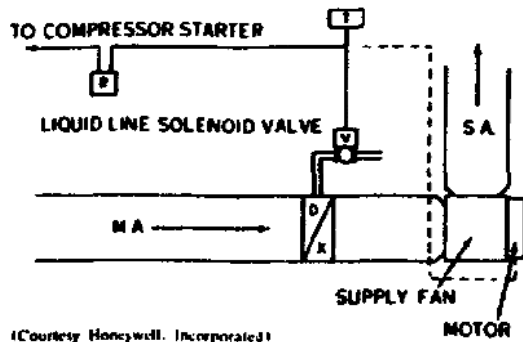
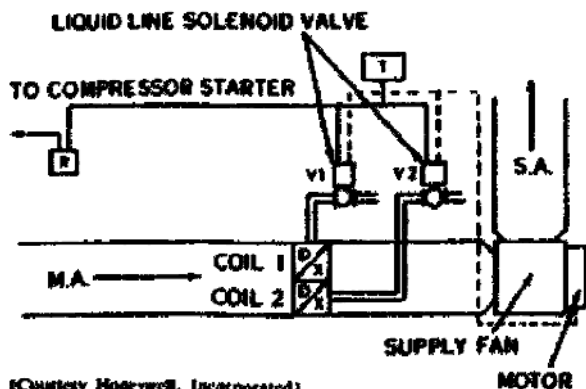

Figure 5. On-off control with a solenoid valve.
Figure 6. On-off control of multiple D/X coil solenoid valves.
12. *Solenoid valve installation.* Figure 5 shows a system which uses a space thermostat to operate a solenoid valve and a nonrestarting relay. The
13. *Multiple D/X coil solenoid valves.* The system shown in figure 6 is similar to that previously discussed (fig. 5) except that it now has two D/X coils and two solenoid valves. The two-stage space thermostat operates D/X coil 1 in an on-off manner when the cooling load is light. It also holds the valve to coil 1 open and operates the valve to coil 2 in an on-off manner during heavy load conditions. The nonrestarting relay functions the same as the one in figure 5.